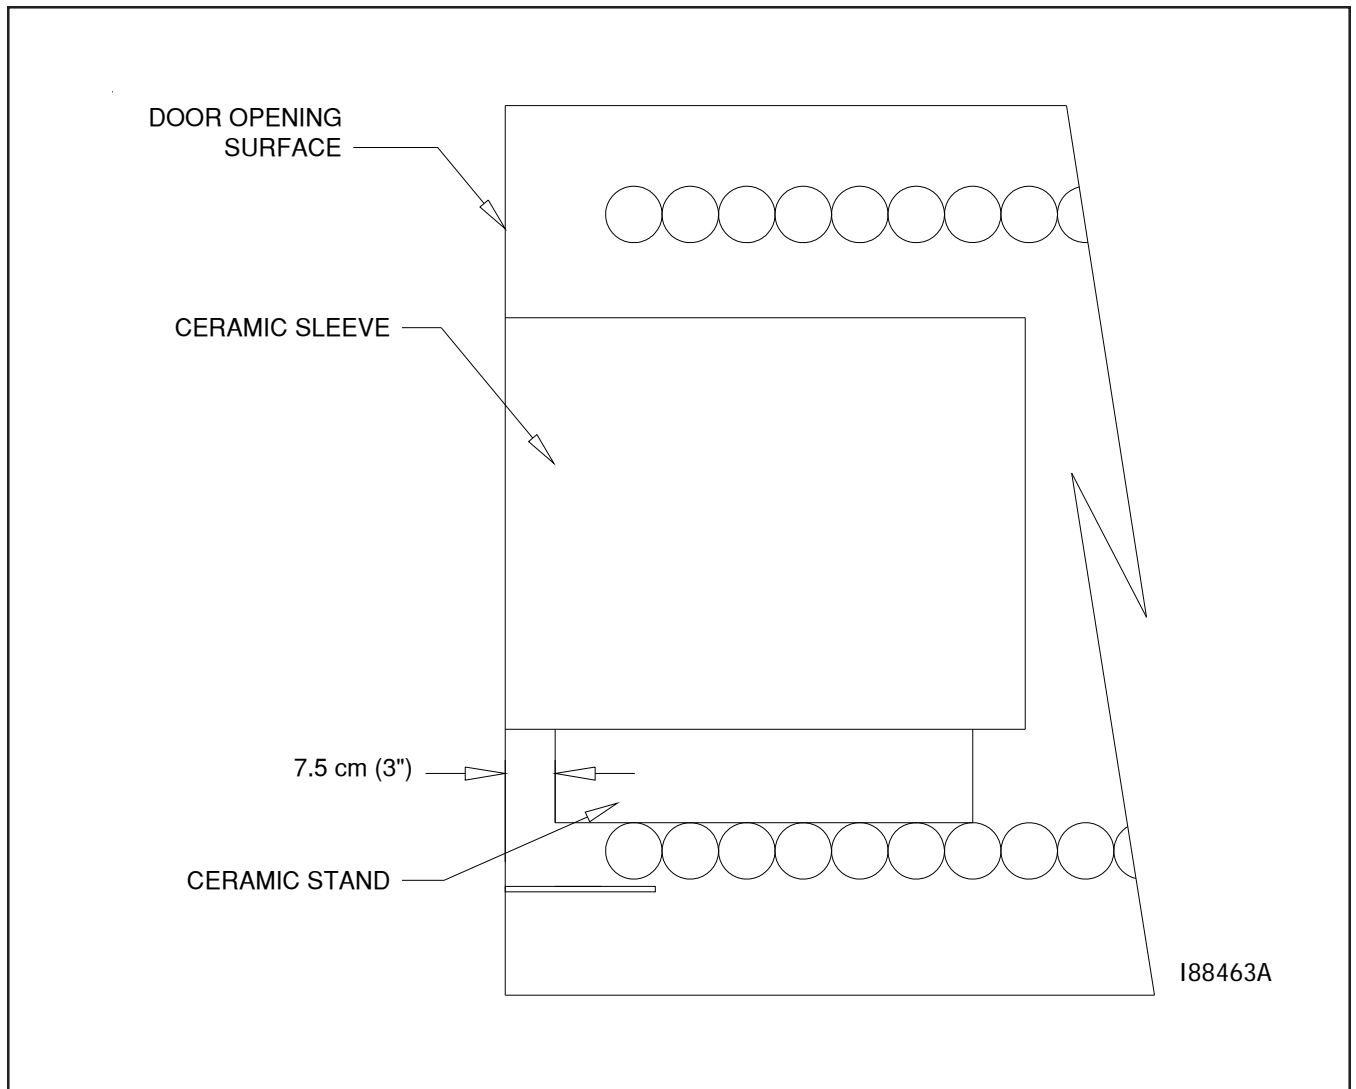

Figure 3F -Positioning of the Ceramic Stand and Ceramic Sleeve
1. Refer to Figures 3F and 3G.
3. Install the stand for the ceramic sleeve as detailed in Figure 3F. Position the stand on the coils approximately 3" in from the door opening.
5. Tighten the four (4) nuts and washers in a criss-cross pattern until all are snug.